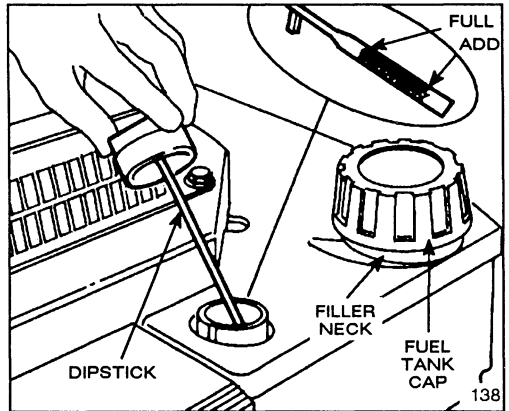

Figure 4
Before each use, assure oil level is between ADD and FULL marks on dipstick (Fig. 4). Add oil if level is low.
3. Wipe dipstick and insert it into filler neck. Rotate cap clockwise 1/4 turn. Then remove dipstick and check level of oil (Fig. 4). If level is low, add only enough oil to raise level to FULL mark on dipstick. **DO NOT FILL ABOVE FULL MARK BECAUSE ENGINE COULD BE DAMAGED WHEN STARTED. POUR SLOWLY.**
1. Clean around fuel tank cap and remove cap from tank (Fig. 4). Using unleaded gasoline, add fuel to 1/4" to 1/2" (6 to 13 mm) from top of tank, not into the filler neck. This space is for expansion of fuel. Do not fill the tank full.
1. CHECK OIL LEVEL—Maintain oil level between ADD and FULL marks as shown on dipstick (Fig. 4).